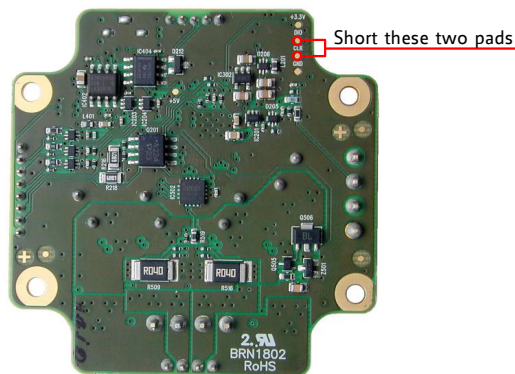

Figure 3: Reset to factory default settings
2. Short CLK and DIO pads of programming pads on bottom of pcb (see figure 3)